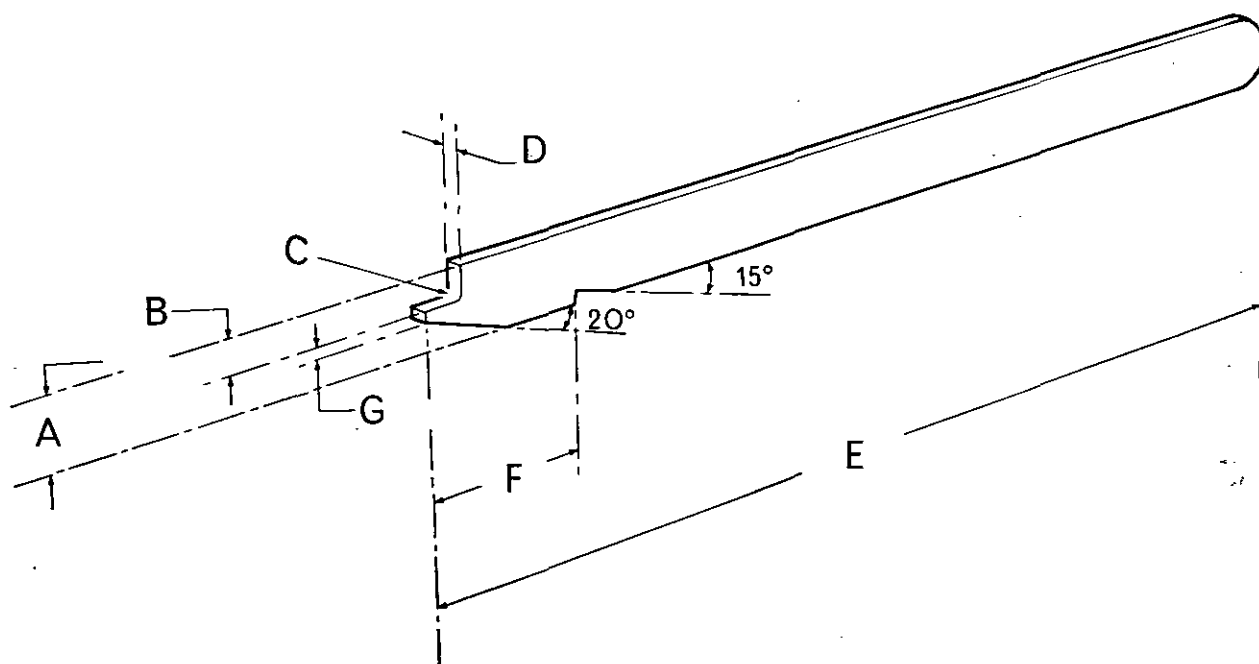

Figure 29. ANTI-RATTLE SPRING REPLACING TOOL — BORG AND BECK
9. Refit the release lever anti-rattle springs. These are of the double coil type and quite strong. The easiest way of fitting them is to make a simple tool as shown in Fig. 29. If the pins attaching the release levers to the pressure plate lugs are removed, and the springs fitted in position, the tool can be rested against the cover bearing housing and used as a lever to push the release lever outwards, against the spring, until the retaining pin can be refitted.